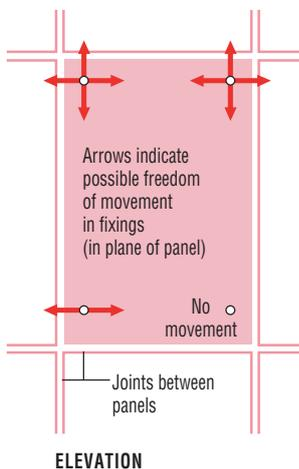

Figure 1 Typical panel fixings
- Units should be provided with fixings as shown in Figure 1. The arrows show